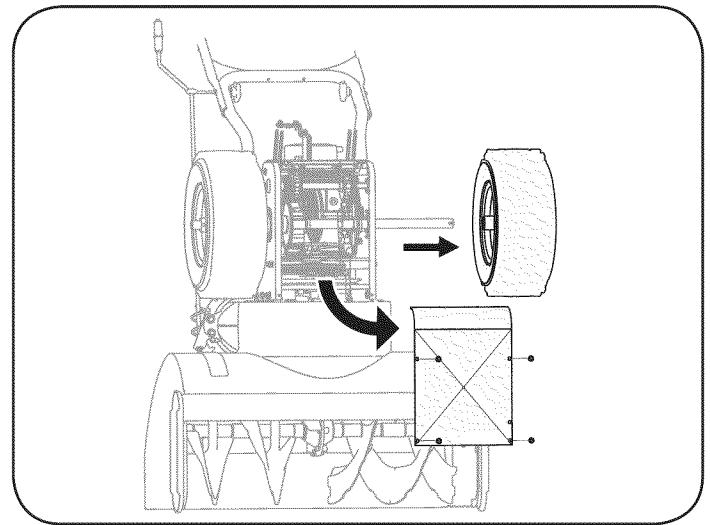

Figure 34
3. Remove screws from the frame cover underneath the snow thrower (refer to Figure 34). Remove the right wheel from the axle.